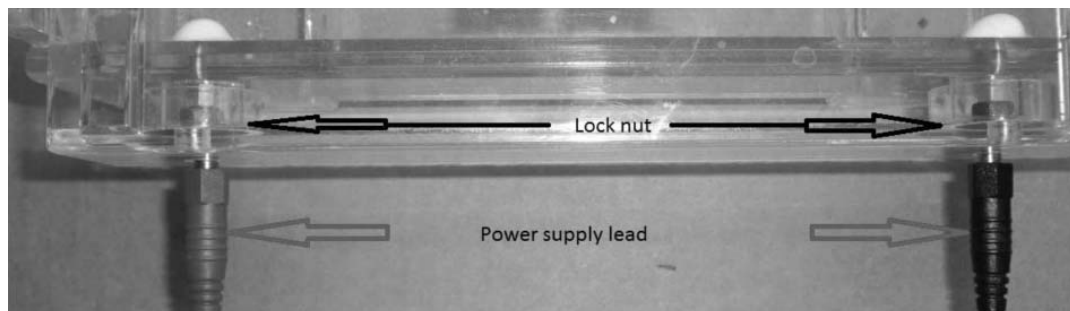

Figure 2-1. Black and Red Power Supply Locknuts
1. Before installing the lid on to the gel box tank, loosen both the black and red power supply lock nuts on the lid, as shown in Figure 2-1 below.